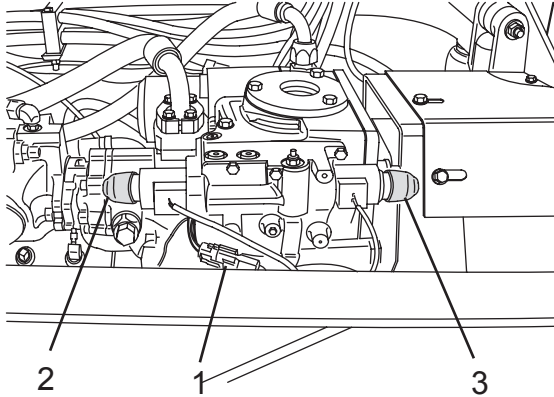

Figure 10
6. Connect the main electrical connector (Figure 10, Item 1) to the charge/discharge coils.
7. Install the charge/discharge manual override caps (Figure 10, Items 2 and 3).